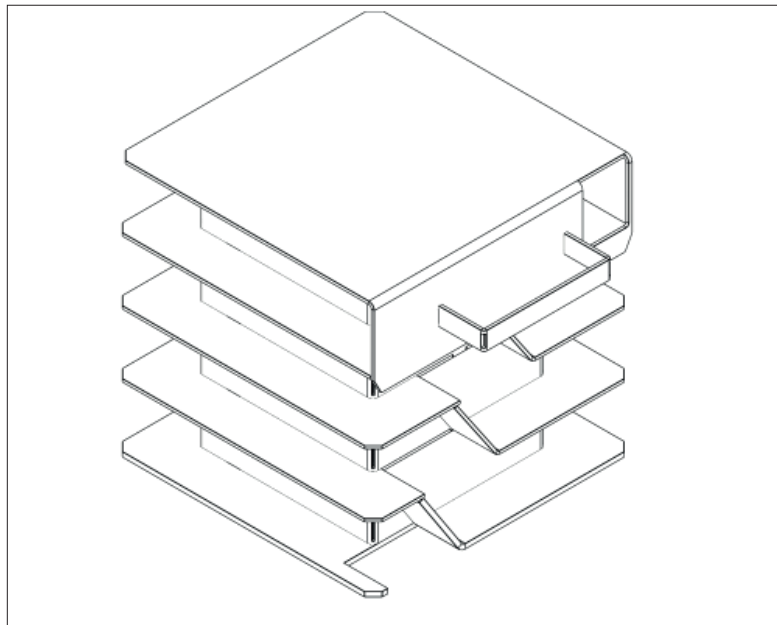
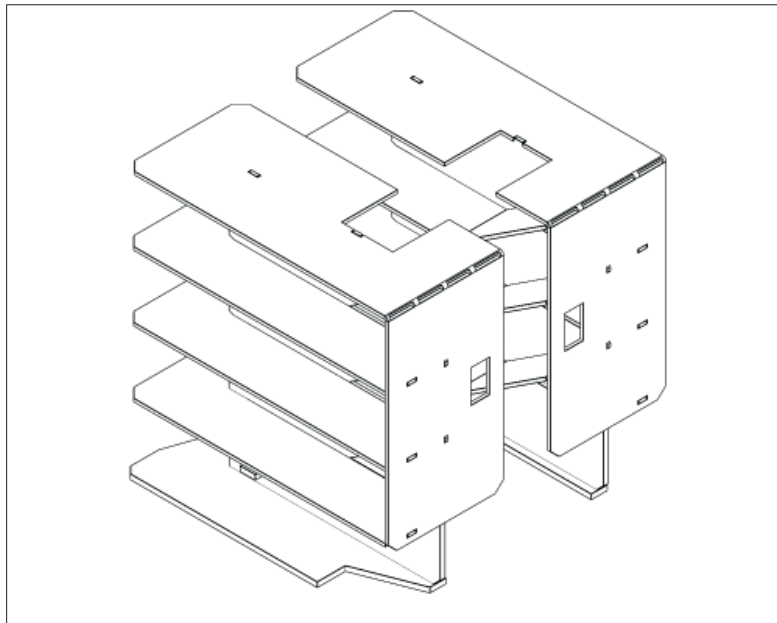
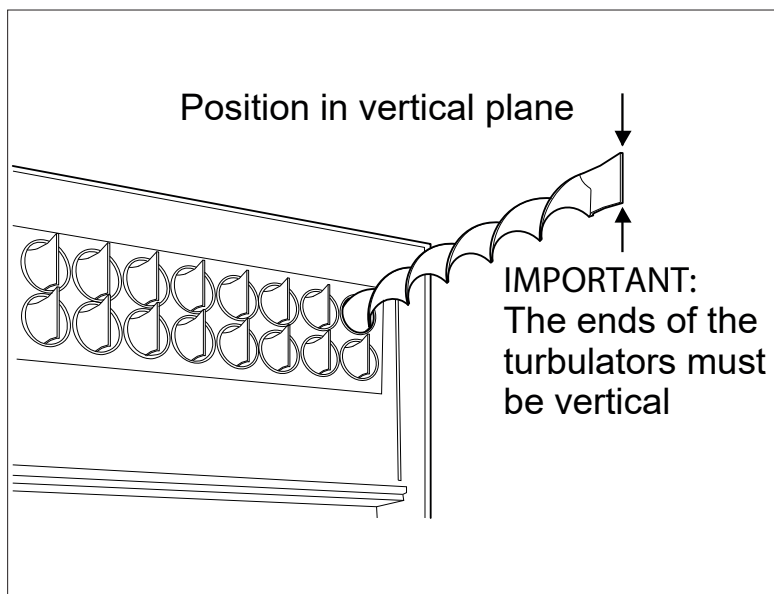

Figure 11-1: Baffles (15/26 models)
Figure 11-2: Baffles (26/35 models)
Figure 11-3: Turbulators
2. Remove the baffles as shown in Figure 11-1 and Figure 11-2.
6. Replace the baffles, ensuring they are correctly fitted. Refer to Figures 11-1 and 11-2, as appropriate. Pull out the spiral turbulators from the heat exchanger tubes. See Figure 11-3.